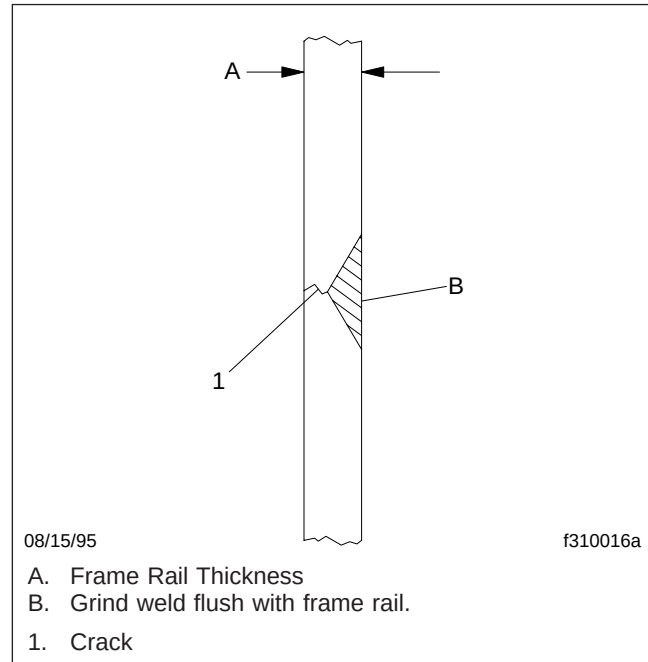

Fig. 5, Weld Ground Flush
5. Grind the weld flush with the frame rail. See Fig. 5.